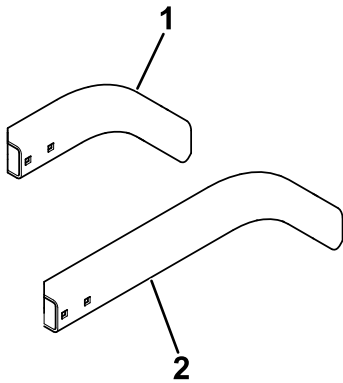

**Figure 20**
- Secure the left light housing and right light housing to the left short mount and right short mount using 4 carriage bolts (1/4 x 5/8 inch) and 4 locknuts (1/4 inch) as shown in Figure 20.